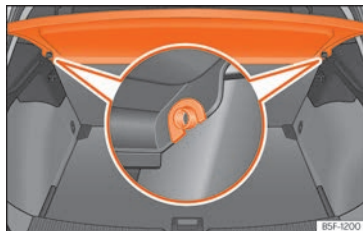

Fig. 125 In the luggage compartment: removing and fitting the shelf.
- Remove the rear shelf from the side supports »» Fig. 125 by pulling it upwards and then take it out.
- Insert the cover horizontally so that the “recess” fits onto the axis of the supports »» Fig. 125 and press down until it engages.